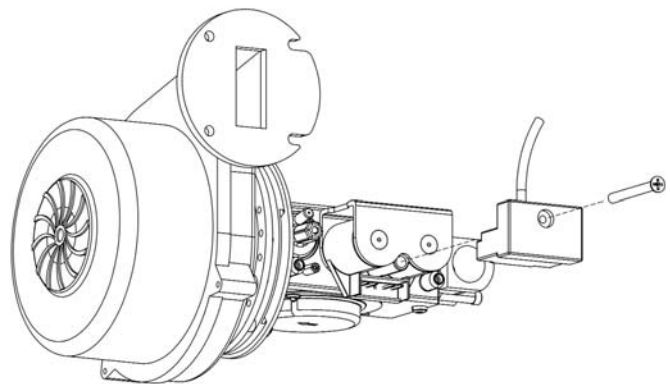

Figure 2
- Using #2 screwdriver, remove the connector screw from the valve. See Figure 2.